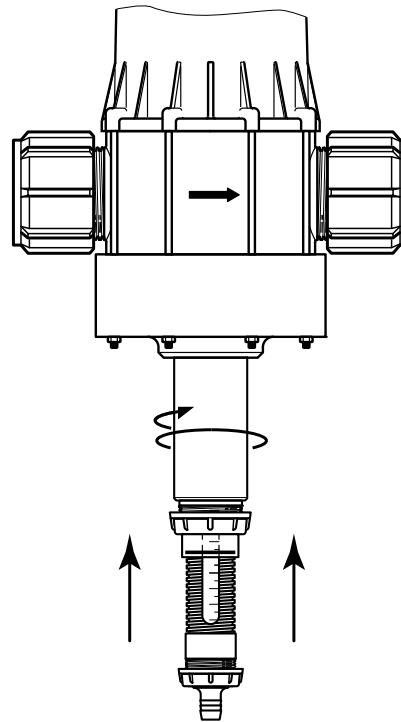

Fig. 19
- Replace the injection assembly (Fig. 19).